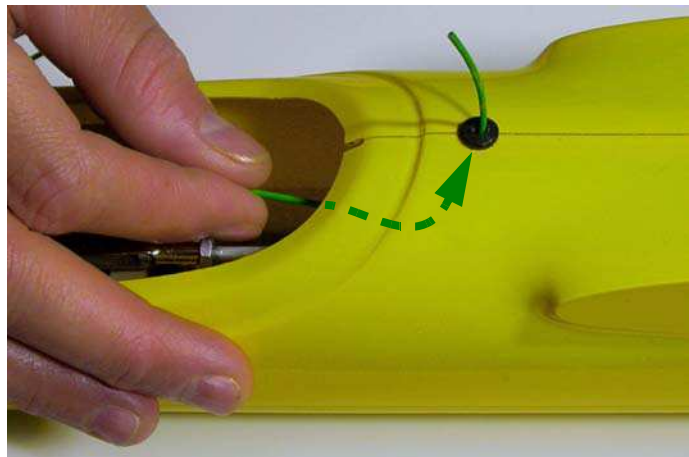

Fig.110: Insert the antenna's wire in the hole.
- let the wire pass through the hole as shown in figure 110;